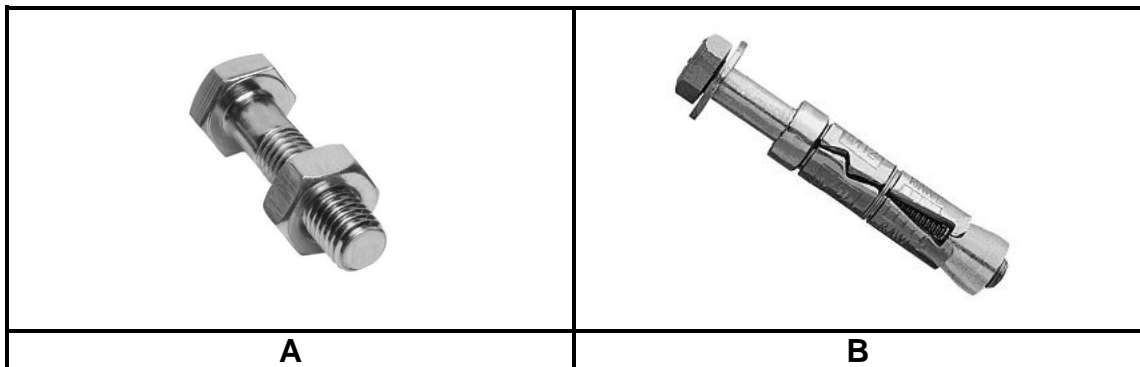

FIGURE 1.7
1.7 FIGURE 1.7 below shows joining fixtures that are used on building sites and in workshops.